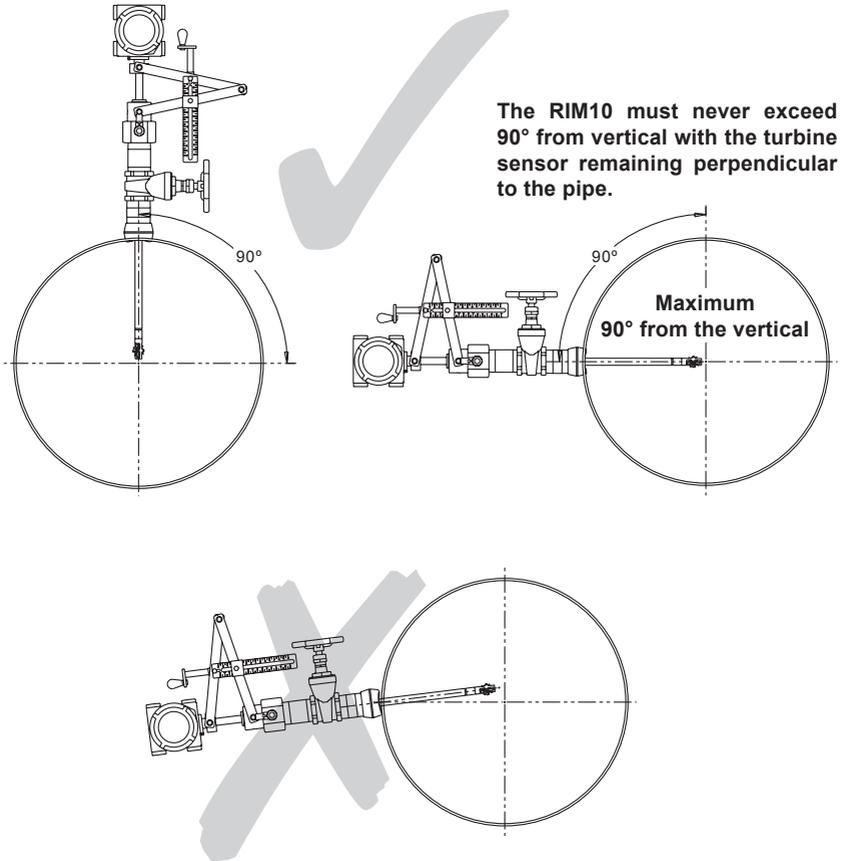

Fig. 1 Fitting orientation
2.4 Fitting orientation - see Figure 1